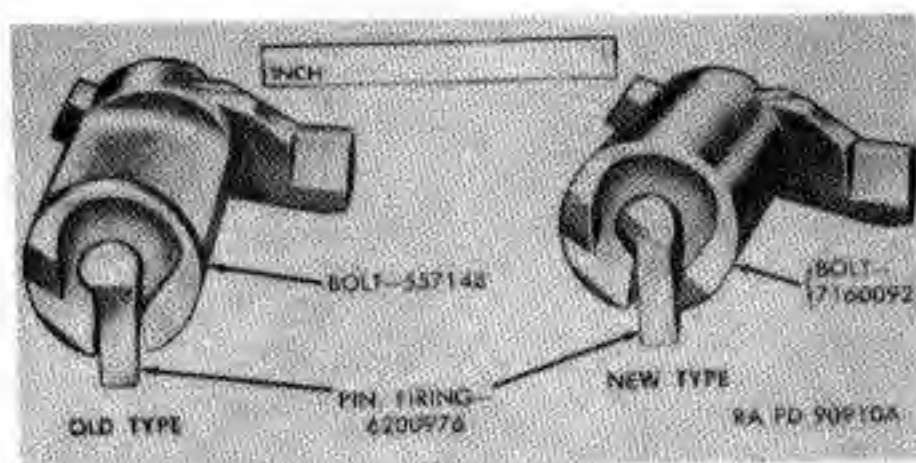
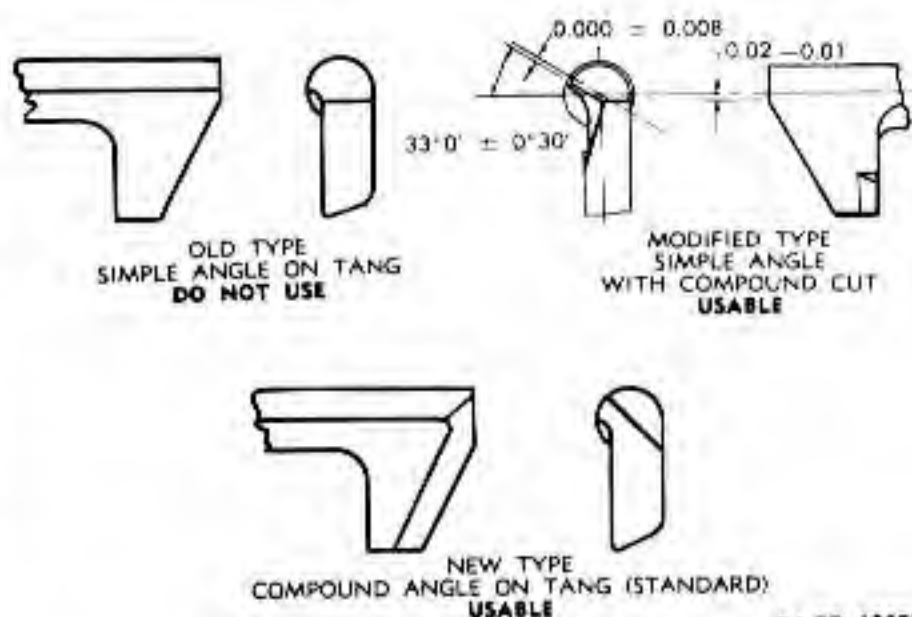

Figure 61. Bolt and firing pin.
Figure 62. Firing pin 6200976.
h. Check to assure that only the new type of modified type firing pin (Fig. 61) is used. The old type pins can be modified by depot maintenance if the quantity involved warrants the work required to accomplish this (Fig. 62). Function test bolt and firing pin.